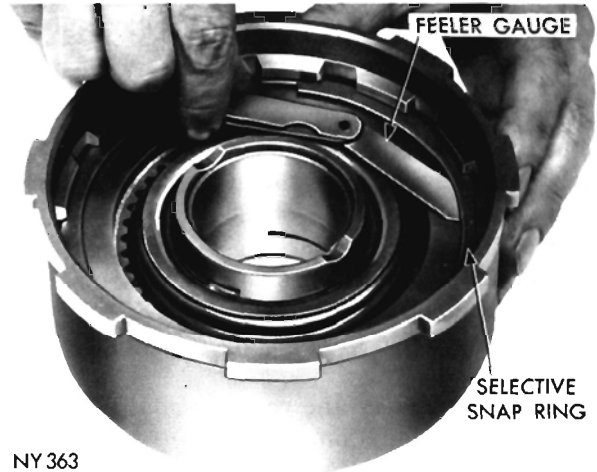

Fig. 91—Measuring Front Clutch Plate Clearance
(5) With the front clutch completely assembled, insert a feeler gauge between the pressure plate and snap ring (Fig. 91). The clearance should be .056 to .104 inch for the four plate clutch, and .042 to .087 inch for the three plate clutch. If not, install a snap ring of proper thickness to obtain the specified clearance.